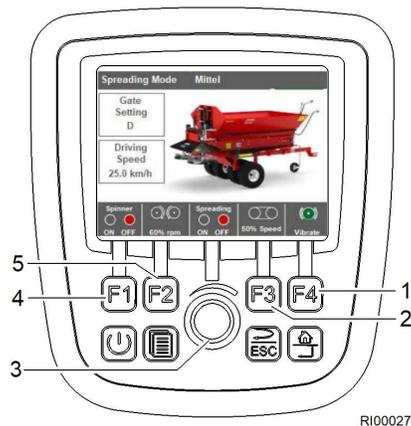

Fig. 44 Carry out spreading operation
1. Press the F1 button (Fig. 44/4). The spreader discs start to rotate (the indicator light is light green).
2. When the F2 button (Fig. 44/5) is pressed, the disc speed can be set via the rotary control (Fig. 44/3).
4. When the F3 button (Fig. 44/2) is pressed, the transport speed can be set via the rotary control.
5. Option: When the F4 button (Fig. 44/1) is pressed, the vibration motors start vibrating. The vibration motors remain running for 10 seconds and are then automatically switched off.